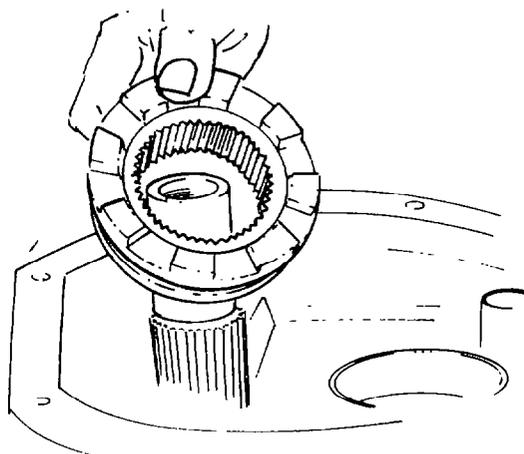

Fig. 258 — Installing Front Drive Sliding Clutch
- aa. Install the front drive sliding clutch on the front drive shaft (clutch teeth towards the front) (see fig. 258).